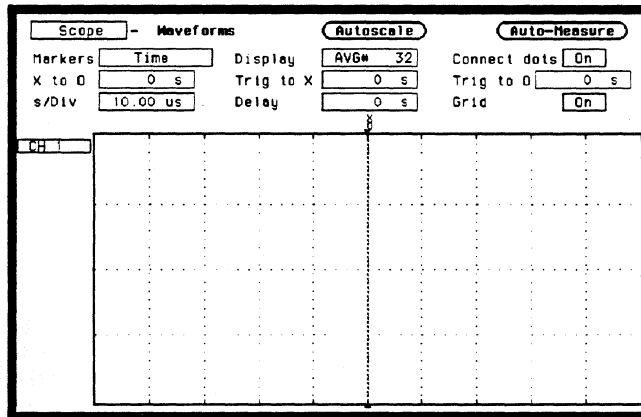

Figure 3-52. Waveforms Display Menu
6. Press DISPLAY and set the Markers to Time, Display to AVG# 32, Connect dots On, and Grid On as in figure 3-52.